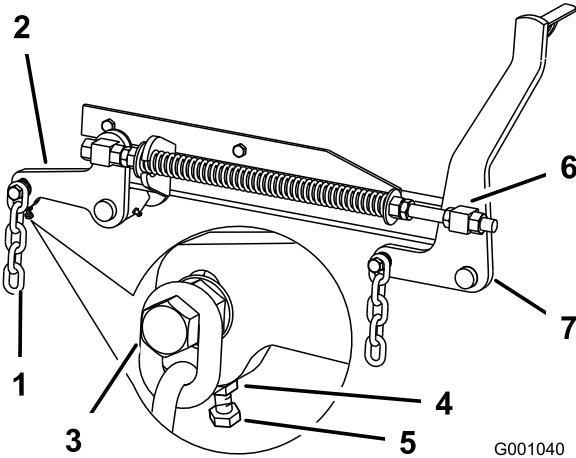

Figure 81
7. If the measurements at positions **B** or **C** are not correct, loosen the bolt attaching the rear chain to the rear support arm (Figure 81).
8. Loosen the jam nut under the rear support arm and adjust the adjustment bolt to get a measurement of 80 to 83 mm (3-1/8 to 3-1/4 inches) (Figure 81).
7. Loosen the front swivel jam nuts, at the front of the right and left swivels, approximately a 13 mm (1/2 inch) (Figure 81).
8. Adjust the lift nuts on both the left and the right side of the machine to achieve 6 to 10 mm (1/4 to 3/8 inch) lower in front at **A** than in the rear at **B** (Figure 81).